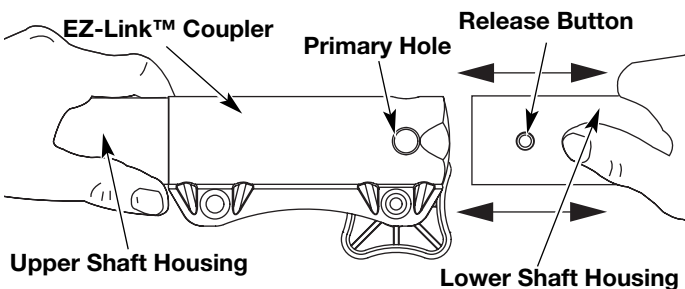

Fig. 12
3. While firmly holding the upper shaft housing, pull the cutting attachment or add-on straight out of the EZ-Link™ coupler (Fig. 12).
2. While firmly holding the add-on, push it straight into the EZ-Link™ coupler (Fig. 12).
CAUTION: Lock the release button in the primary hole (Fig. 12) and securely tighten the knob before operating this unit.